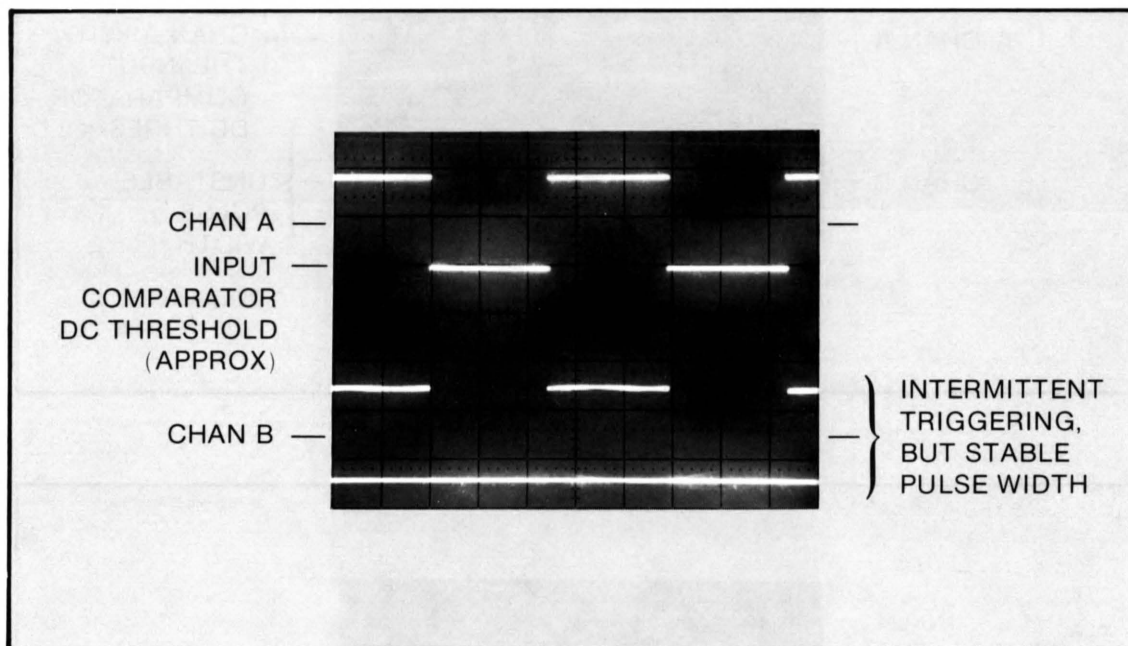
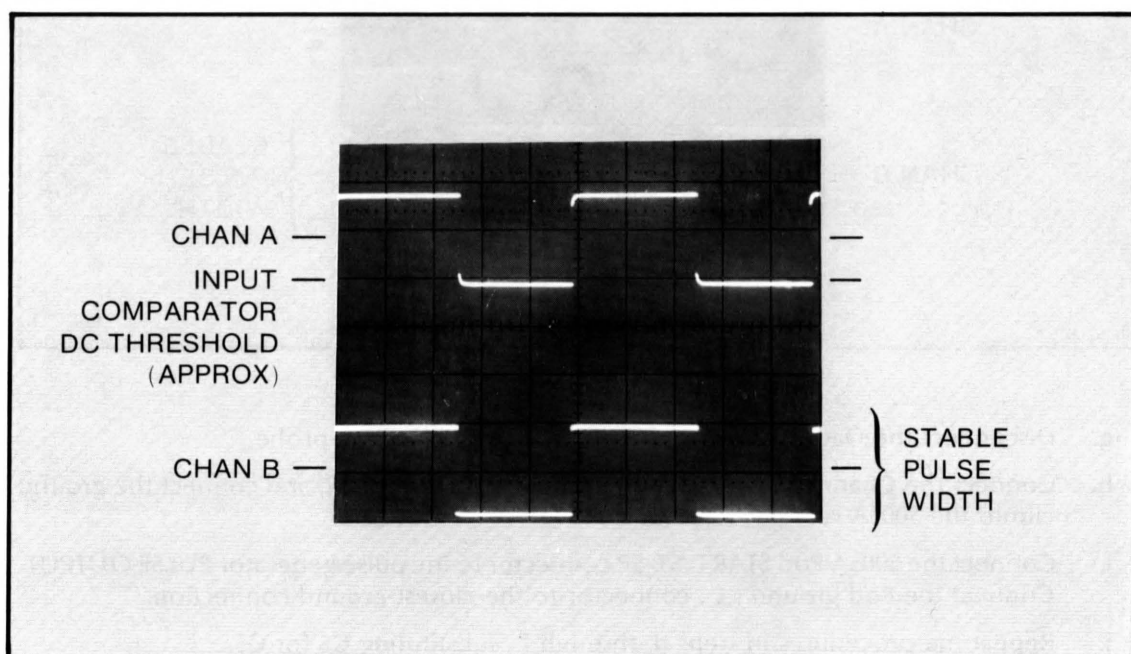

Figure 5-4. Proper Compensation (Intermittent)
Figure 5-5. Proper Compensation (Stable)
- e. Using a non-metallic screwdriver adjust A1 C5 for a stable, symmetrical squarewave. Readjust the OFFSET VERNIER slightly positive again, until the trailing edge jitter reappears. Readjust A1 C5. Repeat this routine until the capacitor (C5) is adjusted such that the comparator output on Channel B “snaps-in”, displaying a stable symmetrical squarewave as early as possible, while varying the input OFFSET VERNIER. When properly adjusted, the Channel B display may be intermittent, but the pulse width should not vary. That is, the comparator may be triggering at times, and not triggering at other times, producing an unstable display (see Figure 5-4), but there should be no trailing edge jitter and the pulse width should never be less than the 50-50 duty cycle shown in Figure 5-5.